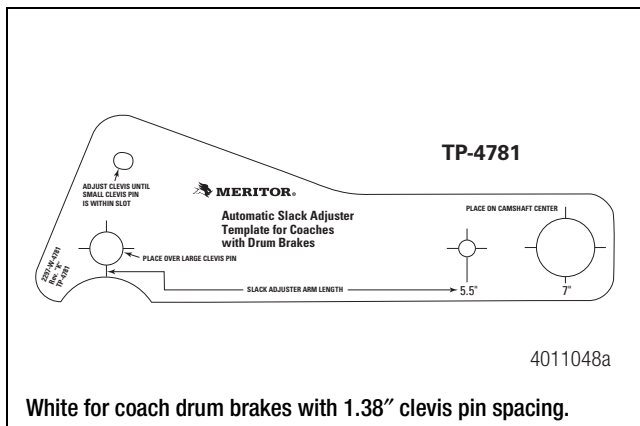
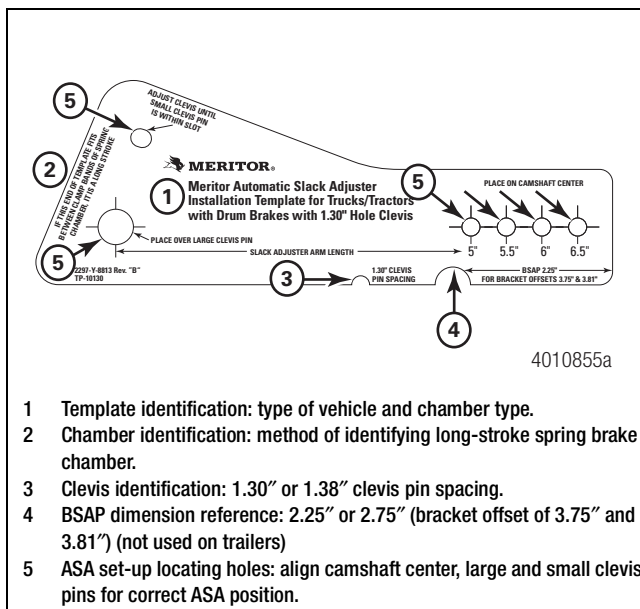

Figure 5.19
Figure 5.20
- Use the correct Meritor automatic slack adjuster template to measure the length of the slack adjuster. Figure 5.15, Figure 5.16, Figure 5.17, Figure 5.18, Figure 5.19 and Figure 5.20. The marks by the holes in the small end of the template indicate the length of the slack adjuster. Refer to Table E.